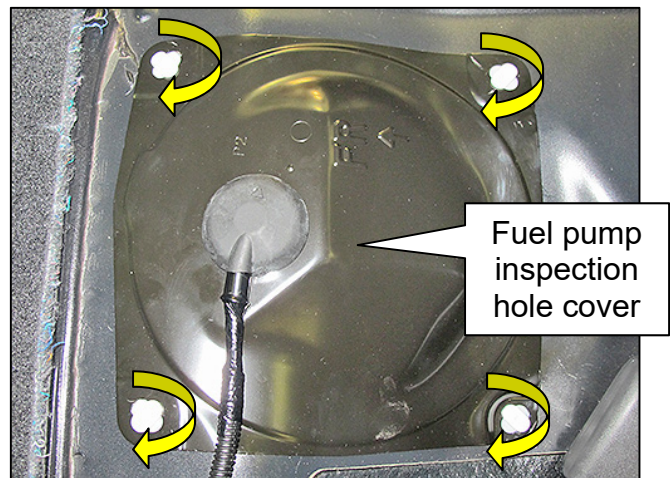

Figure 5
- a. Using a suitable tool turn four (4) retainers 90° clockwise to disengage the clips (see Figure 5).